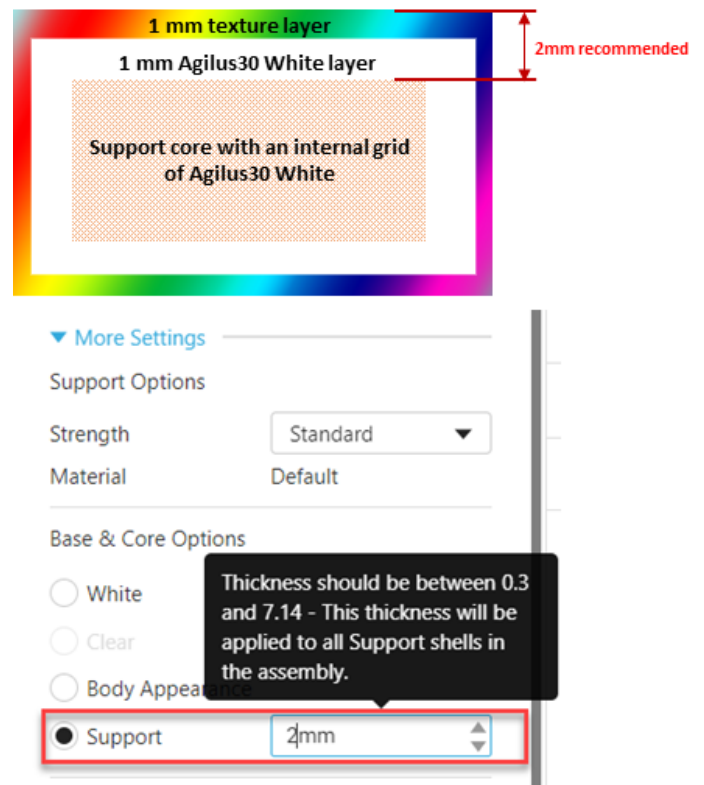

Figure 13: Support core set to 2 mm (recommended)
- For improved dimensional stability when printing bulky Agilus30 CMY parts that are larger than described in the above table and to prevent deformations, assign the Support core (Figure 13) option instead of a white (or clear) core.
The structure for softer parts is as follows (Figure 13):
When selecting the Support core (from the Base & Core Options section), the thickness of the layer that surrounds the part's core is adjustable. The recommended thickness is 2 mm. This results in a 1-mm texture layer, and 1-mm Agilus30 White layer (Figure 13). Changing the layer thickness, affects the thickness of Agilus30 White layer that surrounds core and affects the softness of the part. The texture layer remains 1 mm.